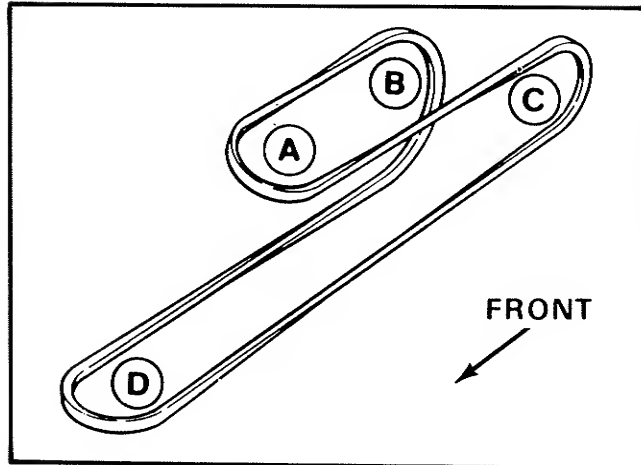

FIGURE 15 - BELT PATTERN
7. Run the belt under the shaft pulley (C) and idler pulley (A), then around to the top horizontal pulley (D). Make certain that the belt is properly installed as in Figure 14. See belt pattern in Figure 15.
NOTE: Be sure belt is seated in the pulley grooves and belt is twisted properly. See the belt pattern shown in Figure 15.